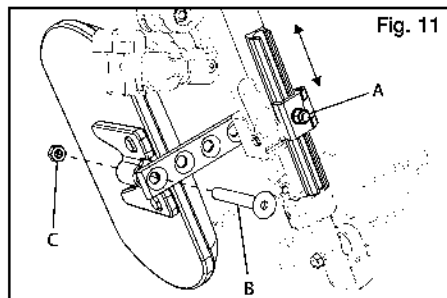

Fig. 11
- a. Loosen nut (Fig. 11:A) using a 10mm wrench.
- a. Remove the screw (Fig 11:B) and nut (Fig. 11:C) on the calf pad arm using a 5mm Allen wrench and a 13mm wrench.